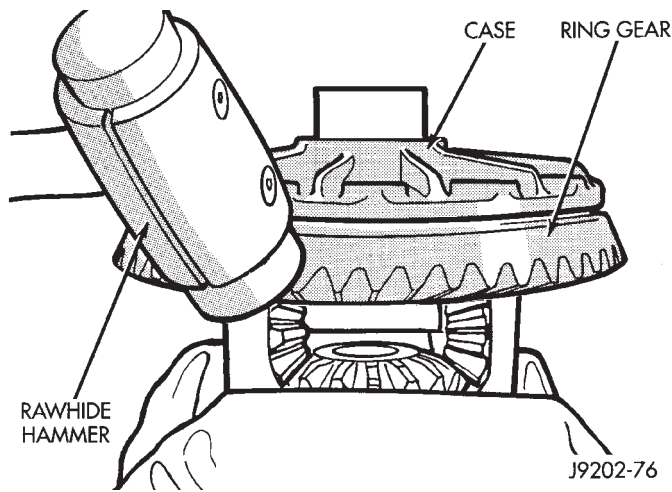

Fig. 48 Ring Gear Removal
- (1) Remove differential from axle housing.
- (2) Place differential case in a suitable vise with soft metal jaw protectors. (Fig. 48)
- (3) Remove bolts holding ring gear to differential case.
- (4) Using a soft hammer, drive ring gear from differential case (Fig. 48).